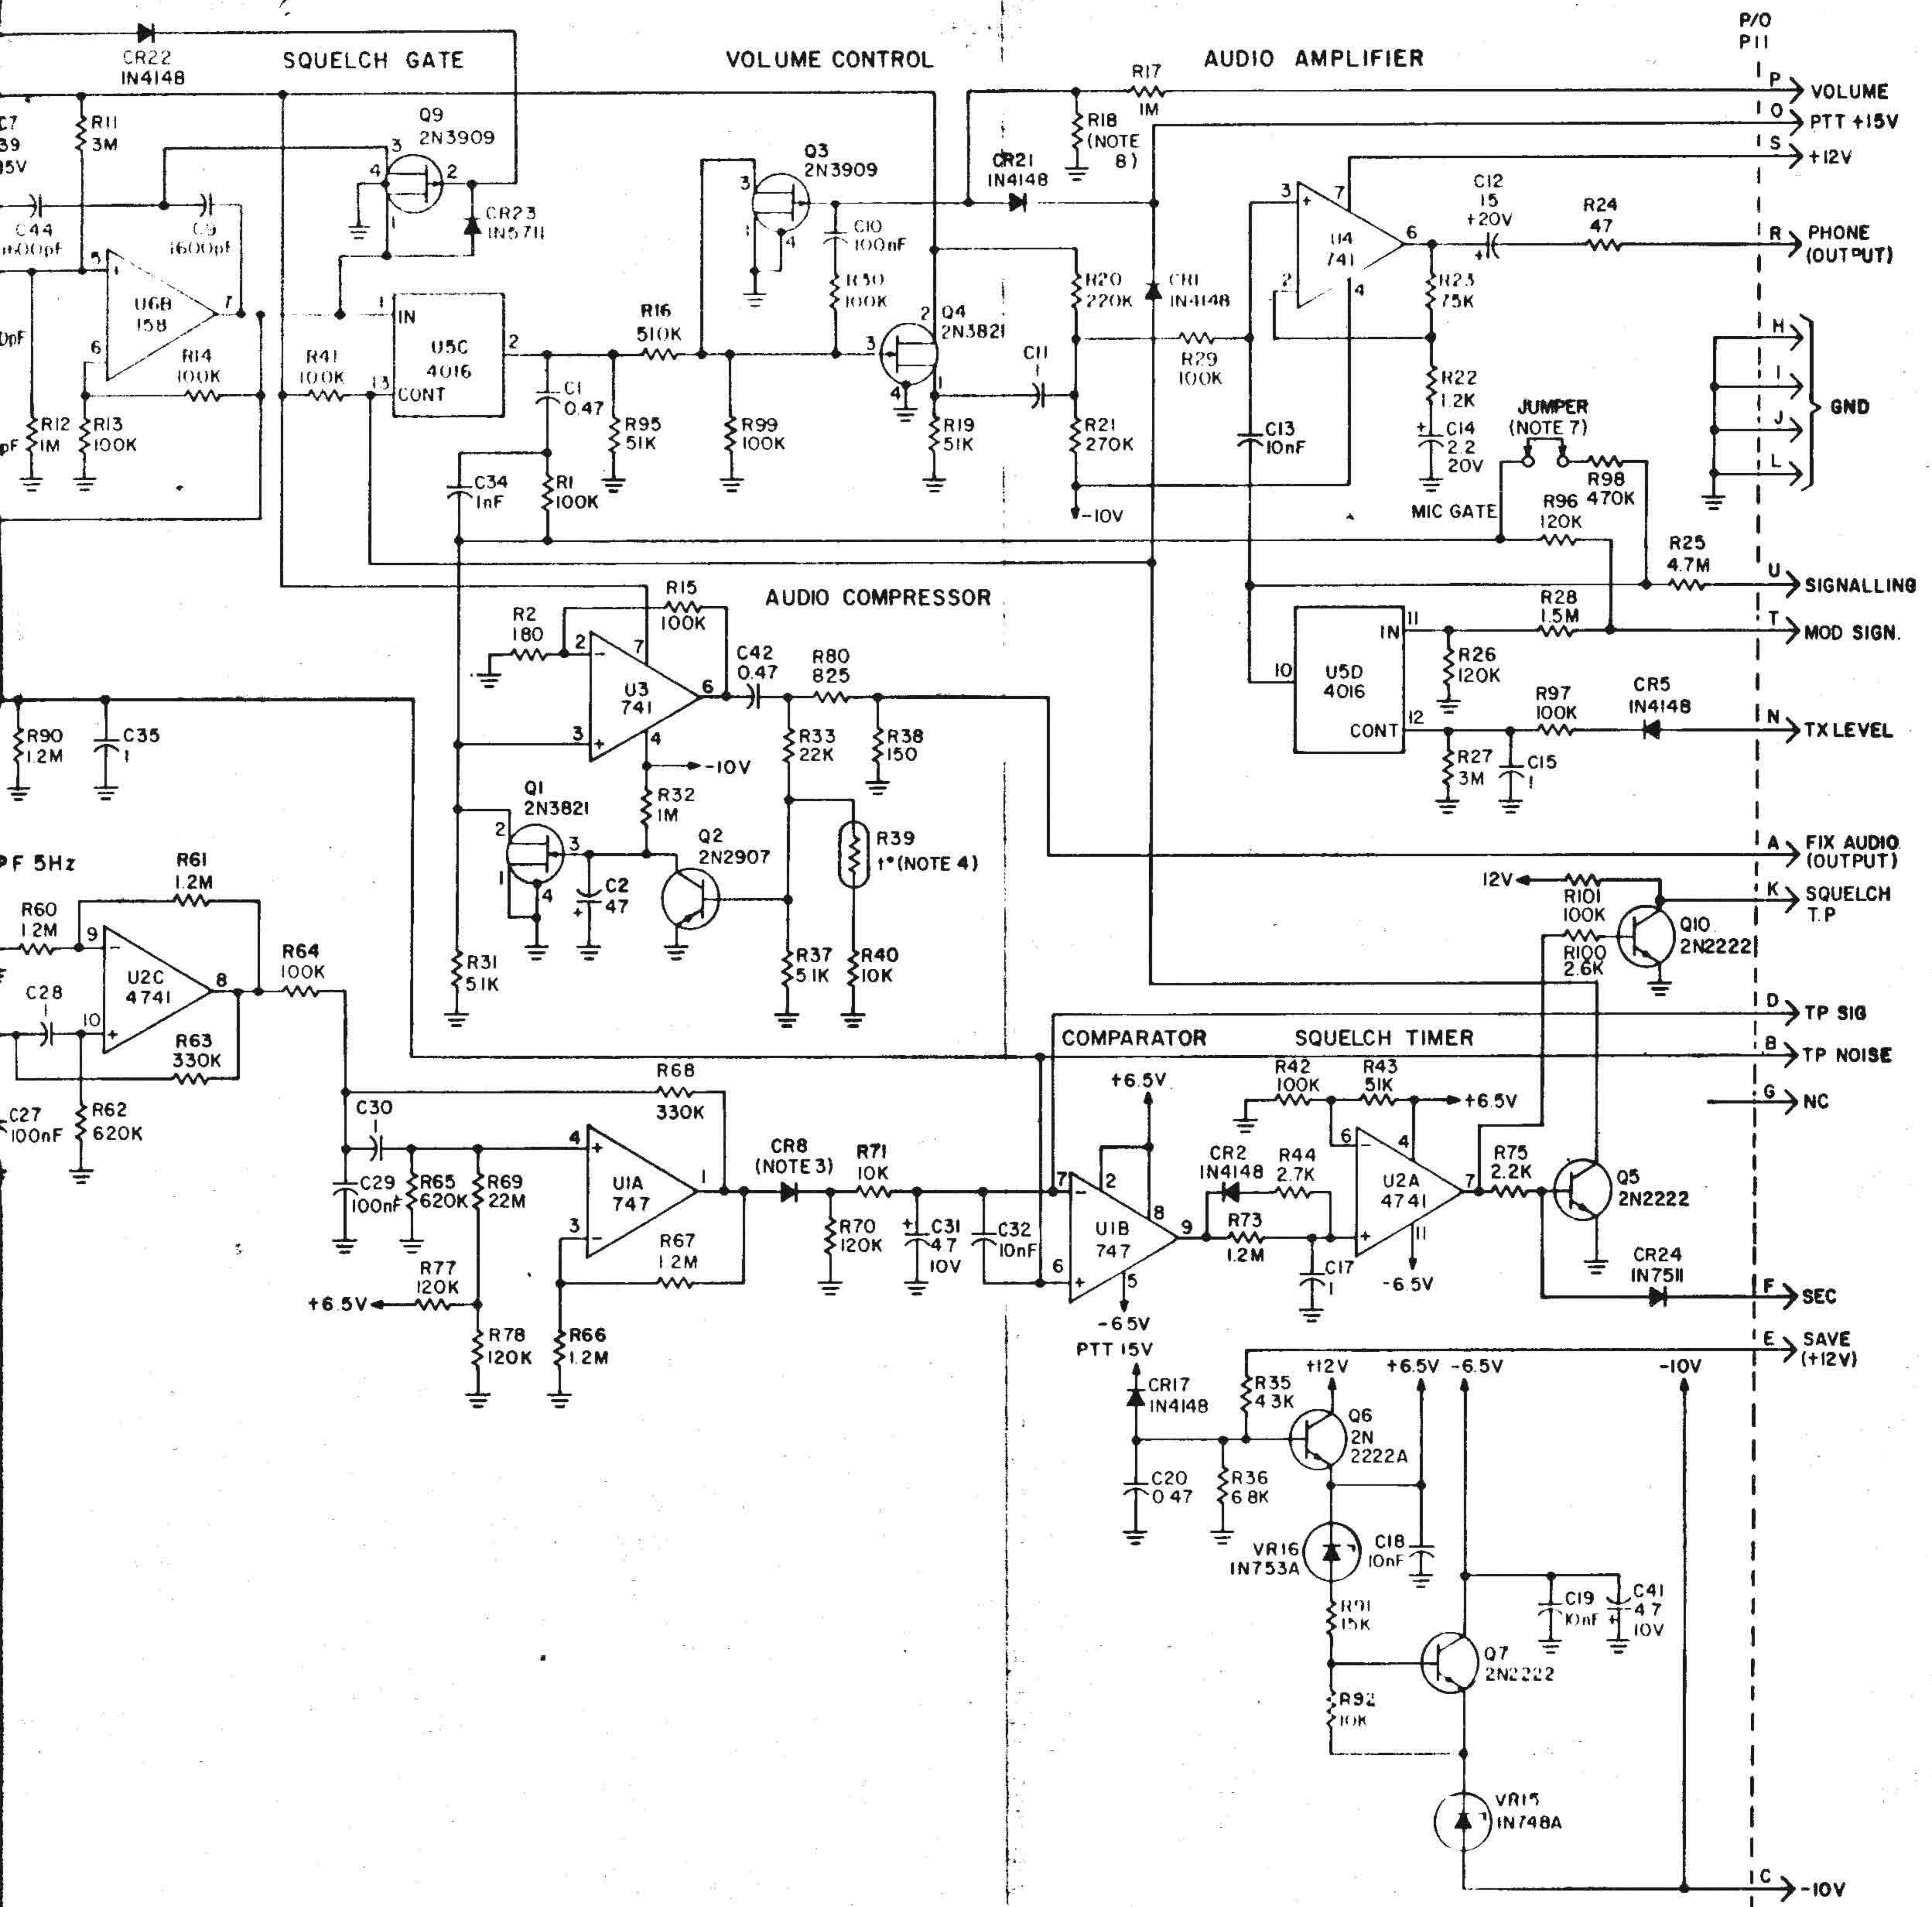

Fig. 2-13. Module AUDIO 1A2A3, schematic circuit diagram
b. Circuit Analysis (fig. 2-13, 2-14).
(1) Signal selector. The demodulated audio signals from module IF 1A2A2 (see para. 2-8) are applied at pin Y (for SSB, DATA, WCW and NCW ope-